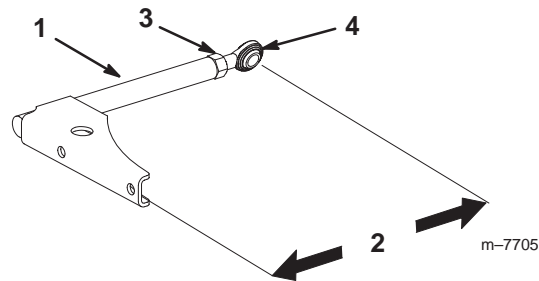

Figure 55
- Loosen the jam nut and rotate the ball joint counterclockwise, one turn at a time. (Fig. 55).
- Adjust each side the same amount. Each push arm should have a nominal length of 13-1/2 inch (34 cm) at a 15-degree twist (Fig. 55).